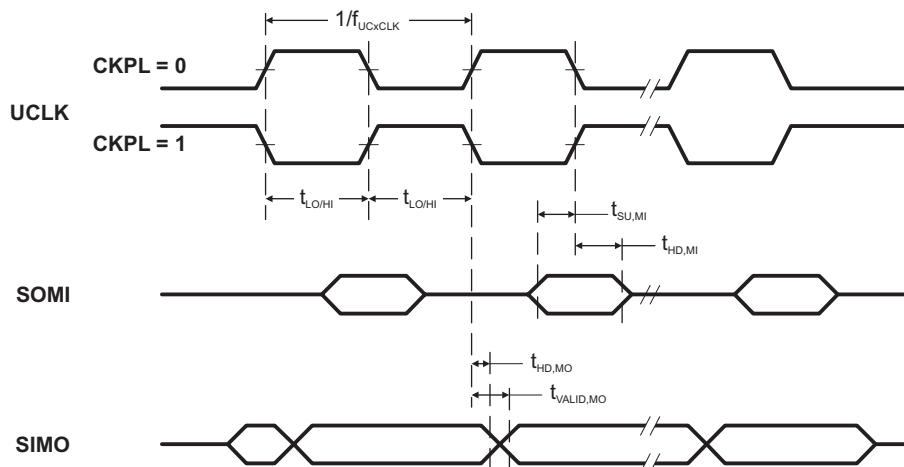
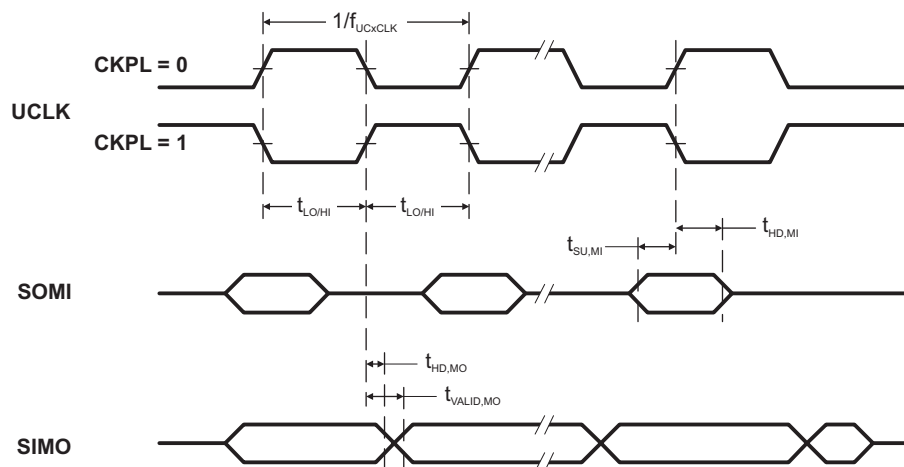

Figure 5-11. SPI Master Mode, CKPH = 0
Figure 5-12. SPI Master Mode, CKPH = 1
(see Figure 5-11 and Figure 5-12)
- (1) f_{UCXCLK} = 1/2t_{LO/HI} with t_{LO/HI} ≥ max(t_{VALID,MO}(USCI) + t_{SU,SI}(Slave), t_{SU,MI}(USCI) + t_{VALID,SO}(Slave)). For the slave parameters t_{SU,SI}(Slave) and t_{VALID,SO}(Slave), see the SPI parameters of the attached slave.
- (2) Specifies the time to drive the next valid data to the SIMO output after the output changing UCLK clock edge. See the timing diagrams in Figure 5-11 and Figure 5-12.
- (3) Specifies how long data on the SIMO output is valid after the output changing UCLK clock edge. Negative values indicate that the data on the SIMO output can become invalid before the output changing clock edge observed on UCLK. See the timing diagrams in Figure 5-11 and Figure 5-12.